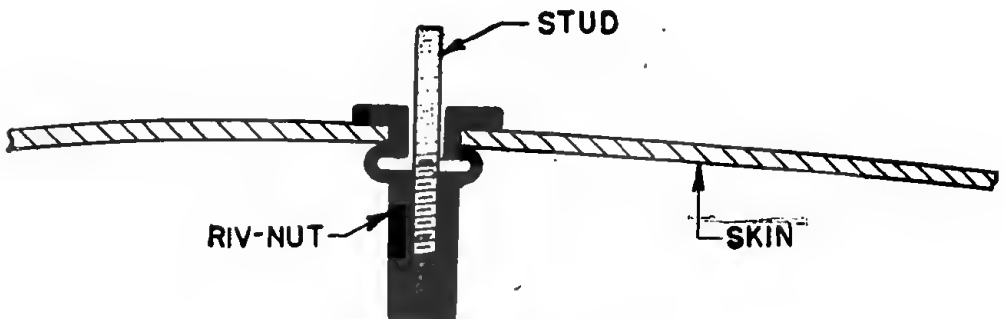

Figure 172. Riv-nut stud.
f. **RIV-NUT STUDS.** (1) To hold the de-icer boot in place while the fairing strip is being applied and some of the riv-nuts are inserted, riv-nut studs are used. A riv-nut stud is merely a bolt of the proper size with the head cut off and filed smooth so that there will be no danger of cutting the boot. (See fig. 172.)